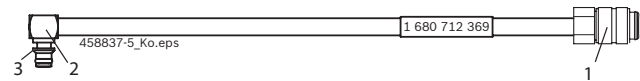

Fig. 1: Hose line 1 680 712 369
Hose line 1 680 712 369 is connected to the return connection on the Siemens/VDO CRI Piezo with the coupling adapter (fig. 1, item 2). The coupling nipple (fig. 1, item 1) is connected to the test connection for the return quantity on the EPS 200/205.
- Use the central main switch on the front of the unit (see fig. 1, item 6) to switch on the EPS 200 / 205.